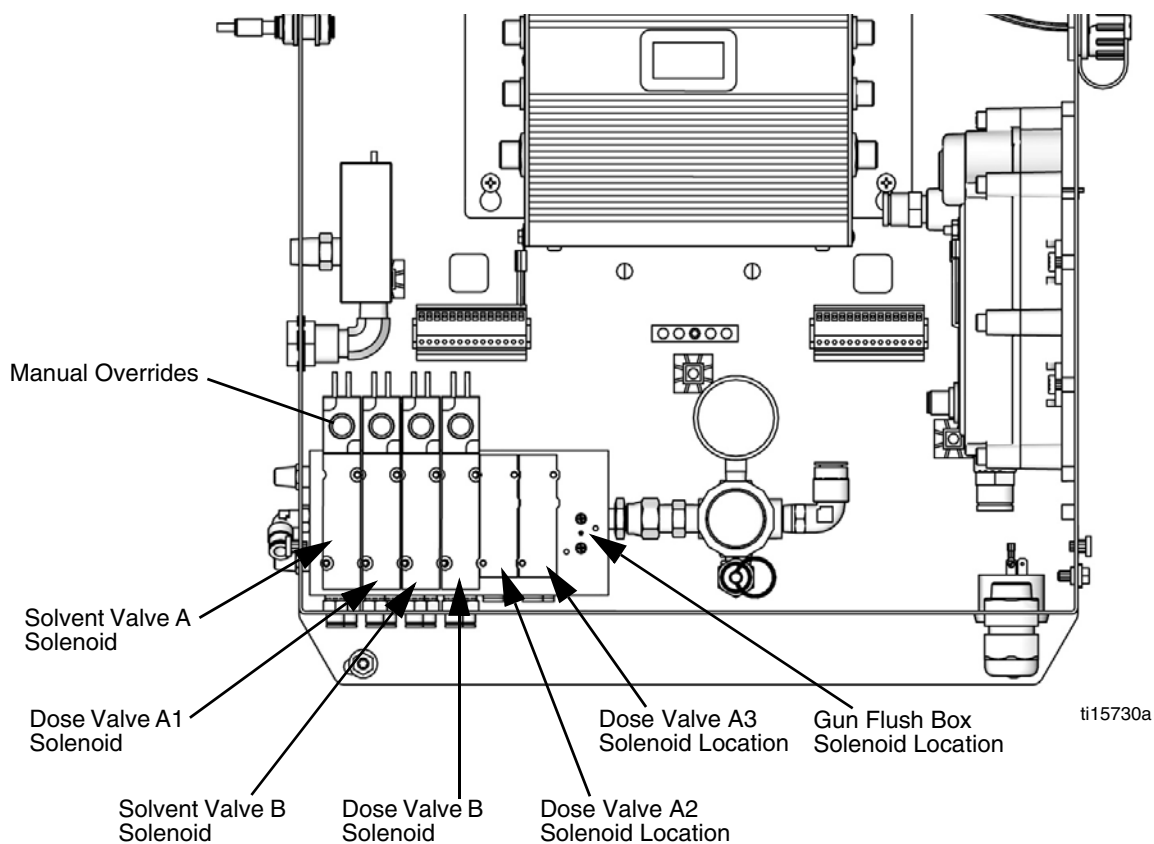

FIG. 1. Solenoid Valves in Control Box
4. With the gun triggered, push the manual override on the A and B dose and solvent valve solenoids to relieve pressure. See FIG. 1, page 15. Verify that fluid pressure is reduced to 0.
4. With the gun triggered, push the manual override on the A1 (A2, A3), and B dose valve solenoids to relieve pressure. See FIG. 1, page 15.
7. With the gun triggered, push the manual override on the A and B solvent valve solenoids to relieve solvent pressure. See FIG. 1. Verify that solvent pressure is reduced to 0.
7. Remove the Control Box cover to access the solenoid valves. See FIG. 1, page 15.
- Purge component A side. See FIG. 1, page 15. Press the manual override on the Dose Valve A solenoid valve and trigger the gun into a grounded metal pail.